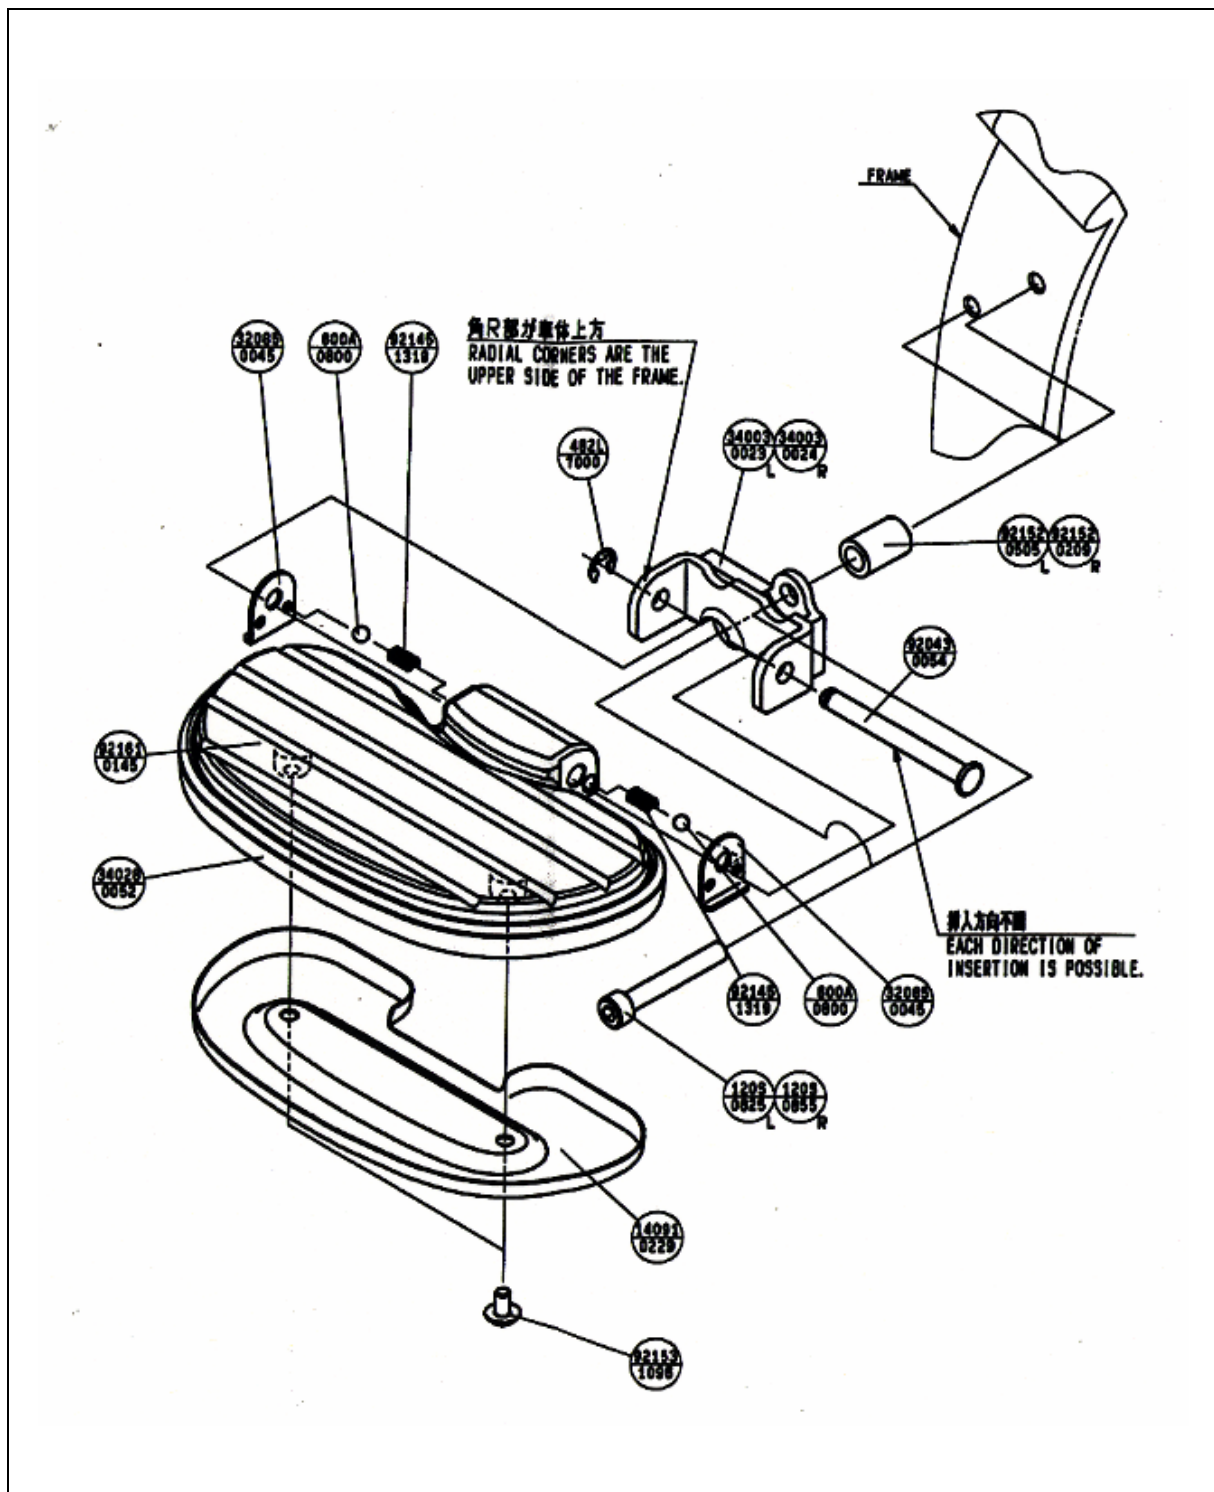

FIGURE 2: FLOORBOARD INSTALLATION
- Install the Step Holders on to the Frame see Figure 2.
- Install the following parts, both left and right, into the Step Holders as shown in Fig. 2.